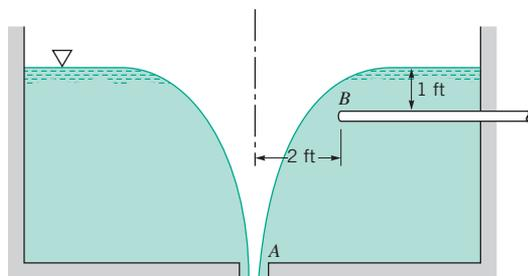

FIGURE P6.39
6.39 When water discharges from a tank through an opening in its bottom, a vortex may form with a curved surface profile, as shown in Fig. P6.39 and Video V6.4. Assume that the velocity distribution in the vortex is the same as that for a free vortex. At